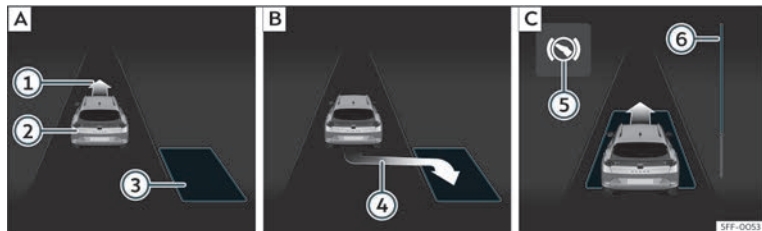
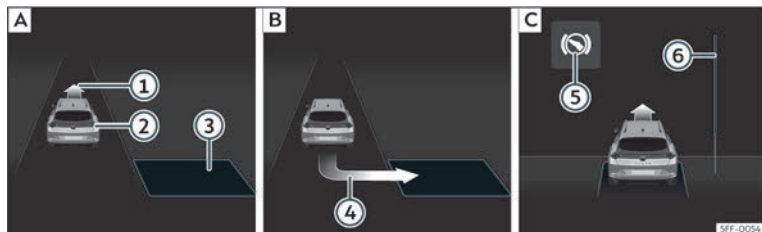

Fig. 177 On the instrument panel display: parallel parking. **A** Finding a parking space. **B** Parking position. **C** Manoeuvring.
Fig. 178 On the instrument panel display: angle parking. **A** Finding a parking space. **B** Parking position. **C** Manoeuvring.
- Look at the display on the instrument panel to see if the space has been detected as “appropriate” and if the correct position for parking has been reached»» Fig. 177 [B] or»» Fig. 178 [B]. The space is considered “appropriate” if the display on the instrument panel shows the message to park ④.
- Reverse until the continuous ParkPilot signal sounds; **OR:** reverse until the indication to move forward appears on the instrument panel display»» Fig. 177 [C] or»» Fig. 178 [C]; **OR:** reverse until the **Park Assist finished** message appears on the instrument panel display. The progress bar ⑥ indicates the distance to cover»» page 276.
- Move forward until the continuous ParkPilot signal sounds; **OR:** move forward until the reverse indication appears on the instrument panel display. The Park Assist system steers the vehicle forward and back until it centres it in the space»» Fig. 177 [C] or»» Fig. 178 [C].
»» Fig. 177 ⑥ and»» Fig. 178 ⑥ on the screen of the instrument panel displays the relative distance to be covered. The greater the distance, the fuller the progress bar. When driving forward, the content of the progress bar decreases upwards, and when reversing, it decreases downwards.